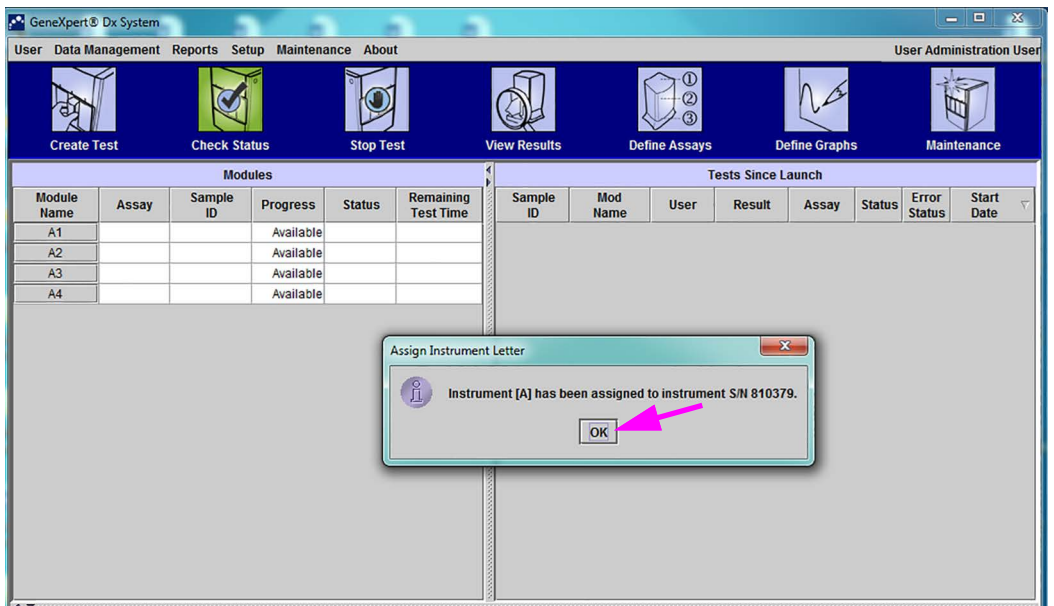

Figure 2-40. GeneXpert Dx System Window with Updated Instrument Letter Assignments
The Change Letter dialog box appears, as shown in Figure 2-40. Select the letter to be assigned to the module(s) by using the up and down arrows of the Change Letter dialog box.
6. After changing the assignment letter, click **OK** (see Figure 2-40).